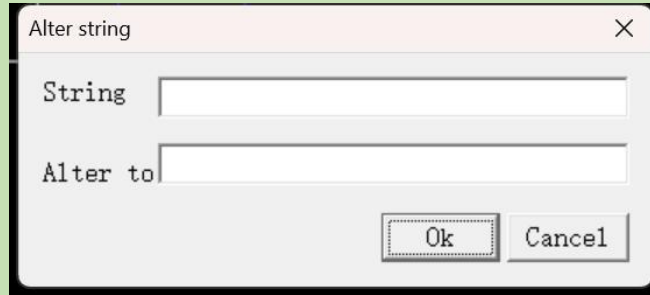

Figure4-72
21) Alter Note string: Replace and modify the same characters in the annotation text within the selected range. ( Figure4-72) .